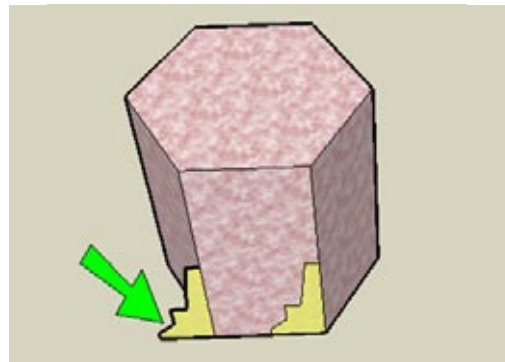

Figure 2-19
4. This face is “inside” the Follow Me path, so it must be moved to the outside of the column. But because the face is attached to an edge of the column, you can't move it without changing the column itself. So make a copy of it (Figure 2-19).